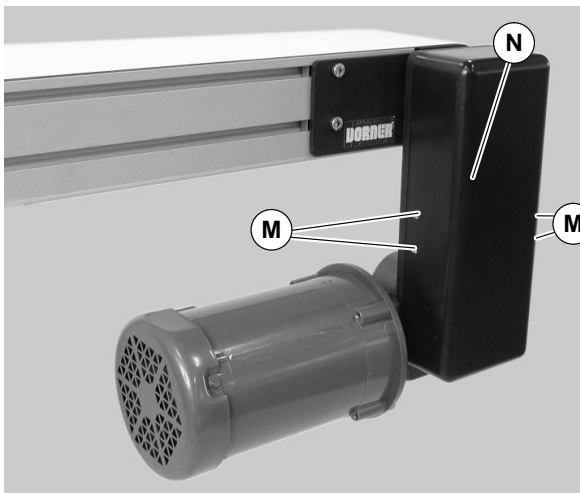

Figure 18
- a. Remove four (4) screws (M of Figure 18) and cover (N).